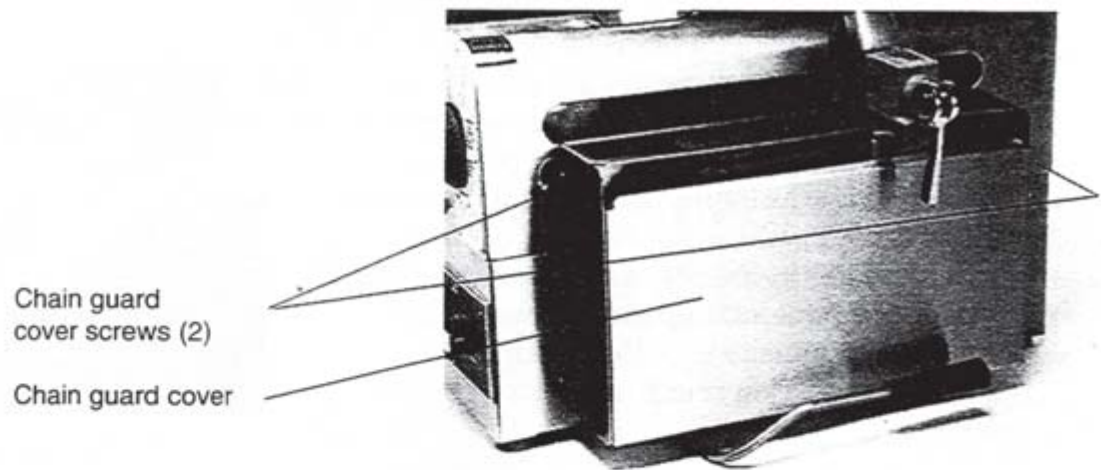

Figure 15-1
5. **CHAIN GUARD COVER** (Automatic Models Only): Remove the chain guard cover (Fig. 15-1) by loosening the chain guard cover screws. Do not allow the chain guard cover to fall. Push in on the sides of the chain guard cover to clear the chain guard cover screws.